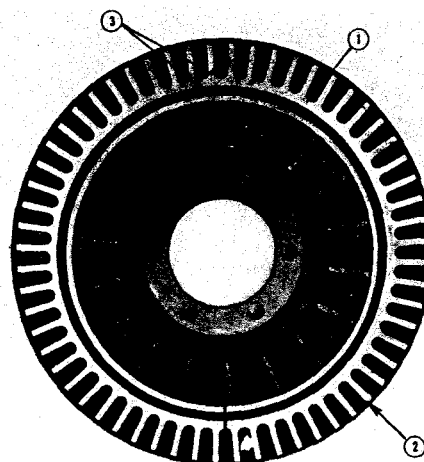

Fig. 2-67, (N10146). Vibration damper alignment marks
Damper hub (1, Fig. 2-67) and inertia member (2) are stamped with an index mark (3) to permit detection of movement between the two components.